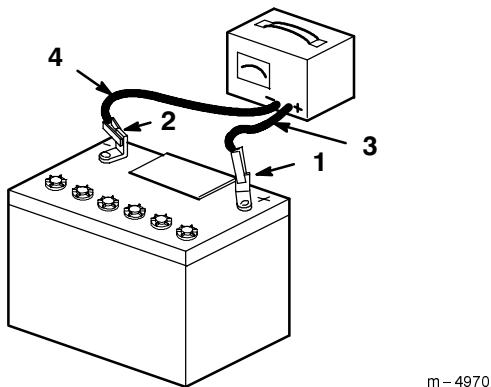

Figure 6
8. When the battery is fully charged, unplug the charger from the electrical outlet, then disconnect the charger leads from the battery posts (Fig. 6).